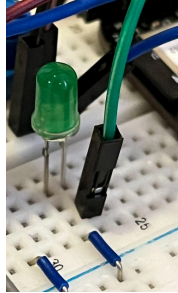

Fig 3. LED Indicator
- Connect the LED to the PocketBeagle. Use a jumper wire to connect the anode (+, long lead) of the LED to the PocketBeagle GPIO pin (GPIO 23, P2_3), and connect the cathode (-, short lead) of the LED to ground. (Fig 3)